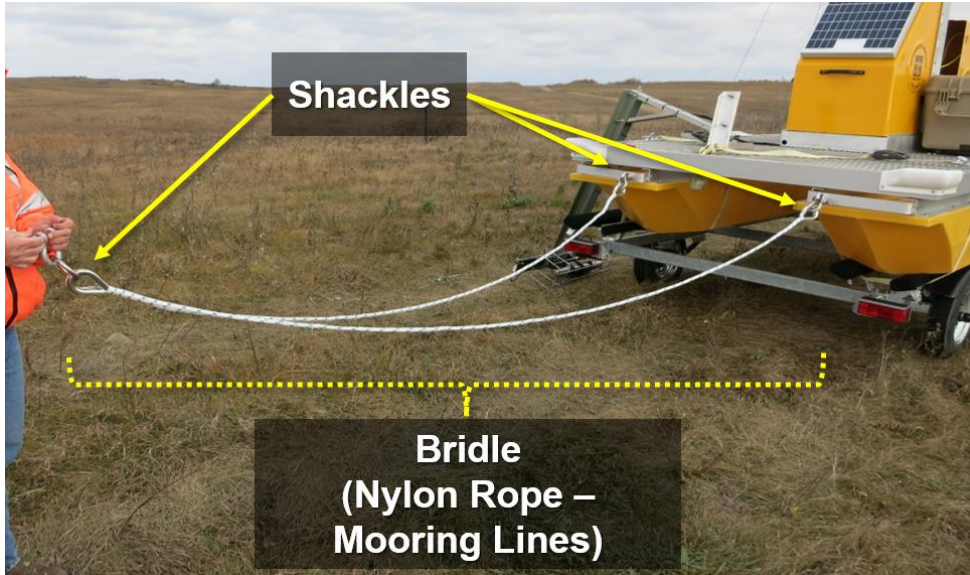

Figure 8. Bridle Attachment Points Example (What to Expect in the Water)
- d. Inspect the bridle nylon rope for UV damage and the shackles and cotter pin for rust/corrosion (see Figure 8).